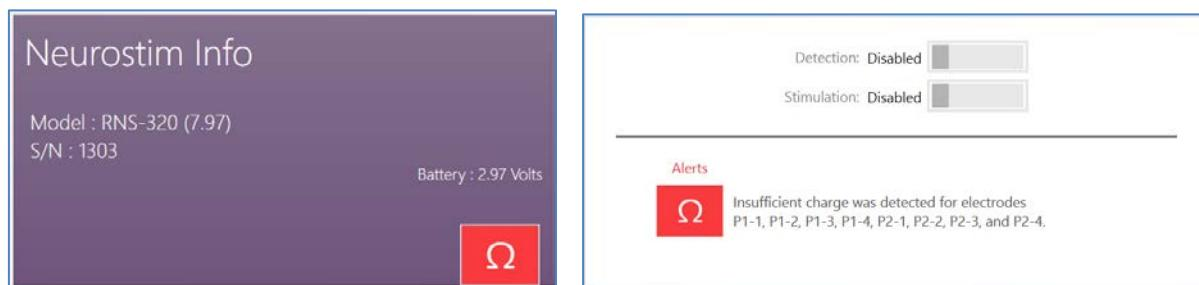
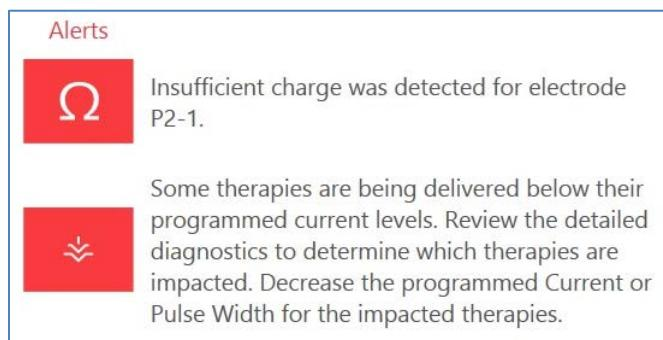
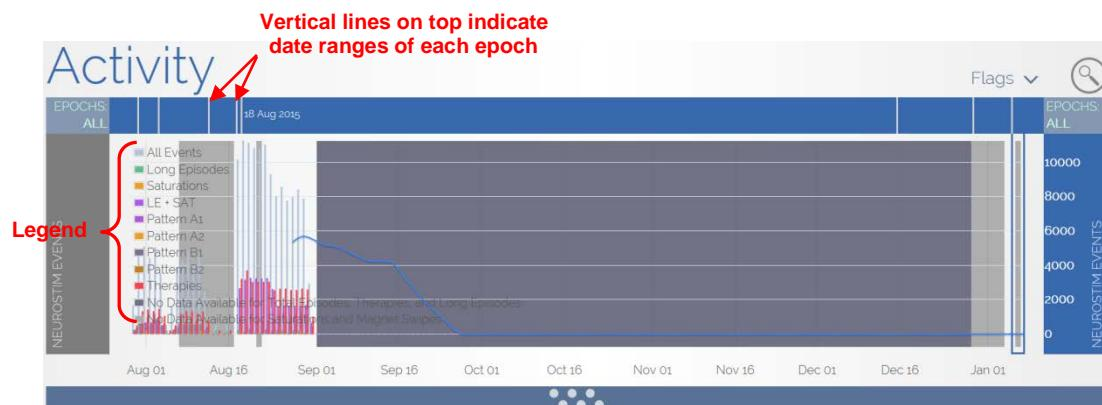
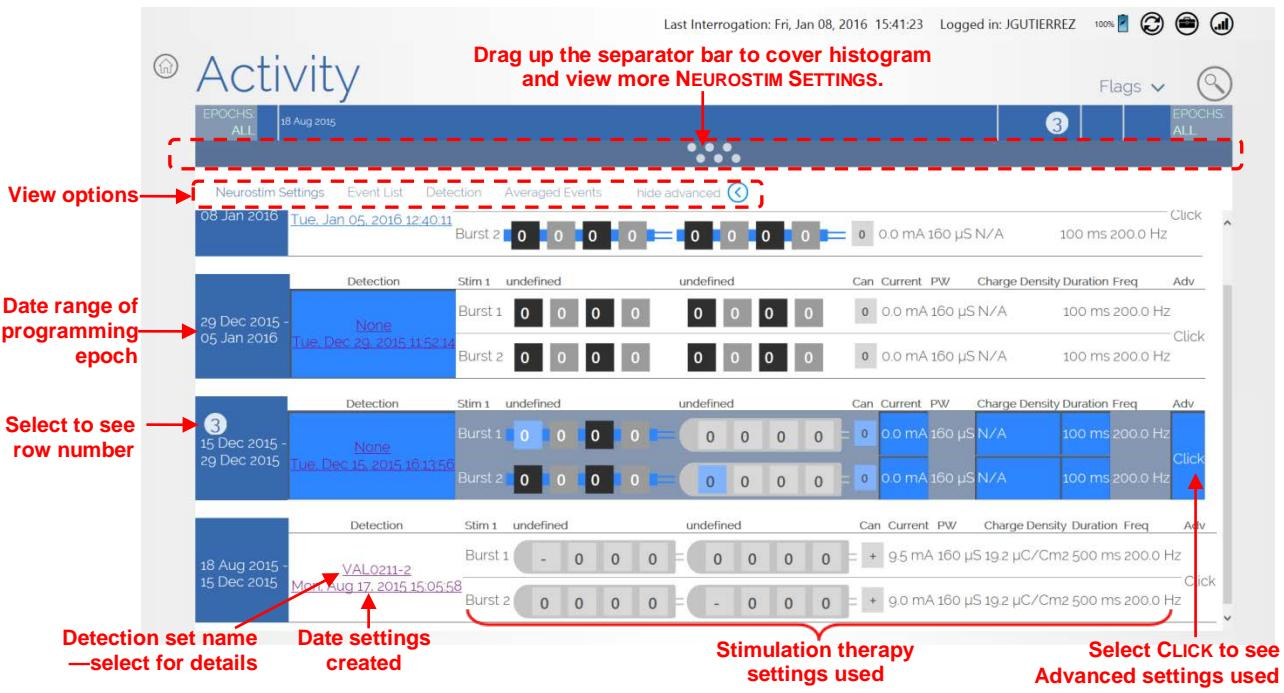

Figure 12 Insufficient charge alert shown on the **NEUROSTIM INFO** tile and screen
Figure 13 Alerts when there is insufficient charge to deliver therapies
Figure 15 Activity histogram with all events showing and supporting legend on left
Figure 16 Activity screen—view detection and stimulation settings used between programming sessions
At the left end of each row is a blue tile showing the date range when those **NEUROSTIM SETTINGS** were used. Vertical lines above the histogram correspond to these dates (see **Figure 12** above). When you select a blue tile, its row number appears on the tile (see **Figure 13** above, row numbers increase as you go down).
Next to the blue tiles, the second column in **Figure 13** shows the name of the **DETECTION** set. Select the name to view its details in the screen that opens (**Figure 15**). Touch (X) at upper right to close.
At the right end of each row in **Figure 13** is the ADV (Advanced) column. Touch CLICK below ADV to view any advanced settings used in the screen that opens (**Figure 16**). Touch (X) at upper right to close.